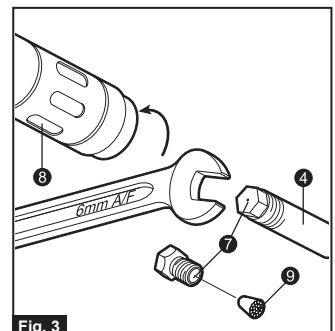

Fig. 3
- 7.2 To remove the injector for cleaning, unscrew the burner (8) in an anti-clockwise direction. Unscrew the injector(7) using a 6 mm A/F spanner. Remove the injector filter (9) from the injector by twisting it with the aid of a small pair of grips (Fig.3).